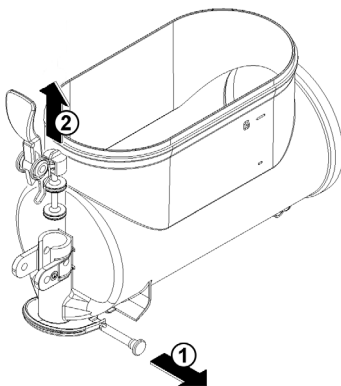

figure 7
- 5** Dismantle the faucet assembly (see figure 7).
- 3 Assemble the faucet by reversing the disassembly steps (see figure 7)